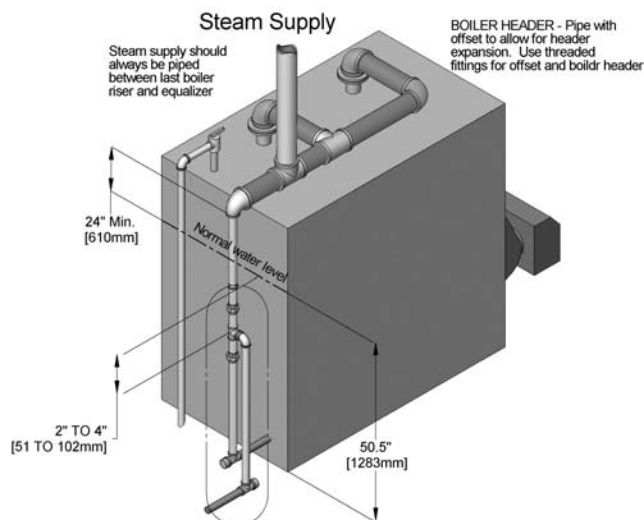

Figure 3.2: Typical piping arrangement for boilers with two risers.
- c) See Figure 3.2 for a typical piping arrangement for boilers with two risers. (TC-06 through TC-10)